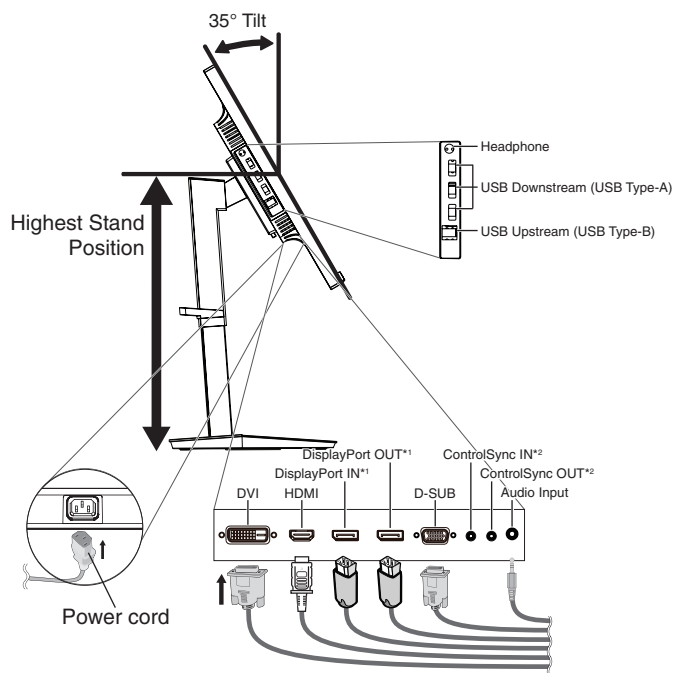
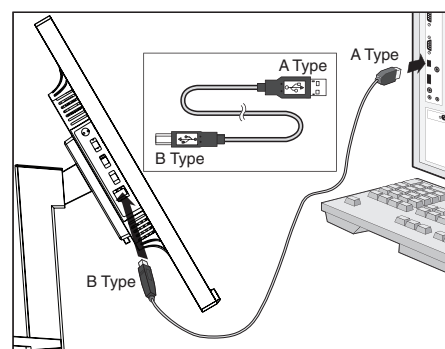

Figure C.1
Figure C.1a
4. Connect all cables to the appropriate connectors (**Figure C.1**). When using the USB cable, connect the B type connector to the USB upstream port on the right back side of the monitor and the A type connector to the downstream port on the computer (**Figure C.1a**). If using the cord from a USB device, plug into the downstream port of the monitor.